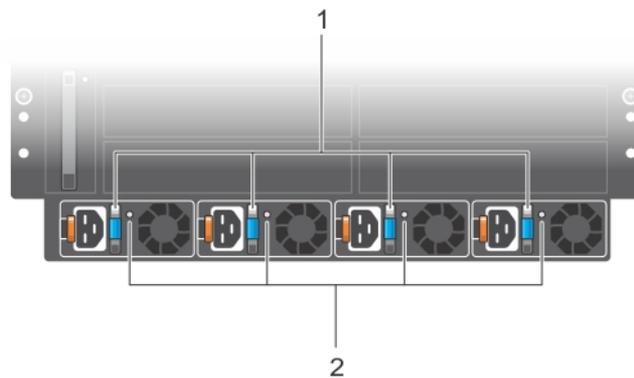

Figure 32. PSU LEDs
- 5 The power supply LEDs display solid green (see Figure 32). If a PSU LED is not solid green: